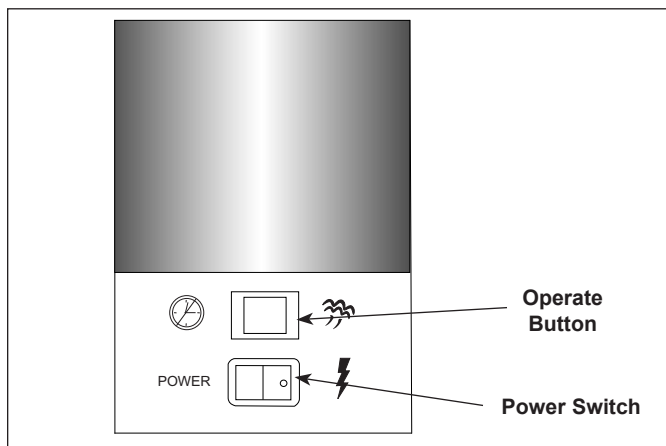

Figure 6. Operating Controls Non-Timer Models
1. Turn the power on (Figure 6).